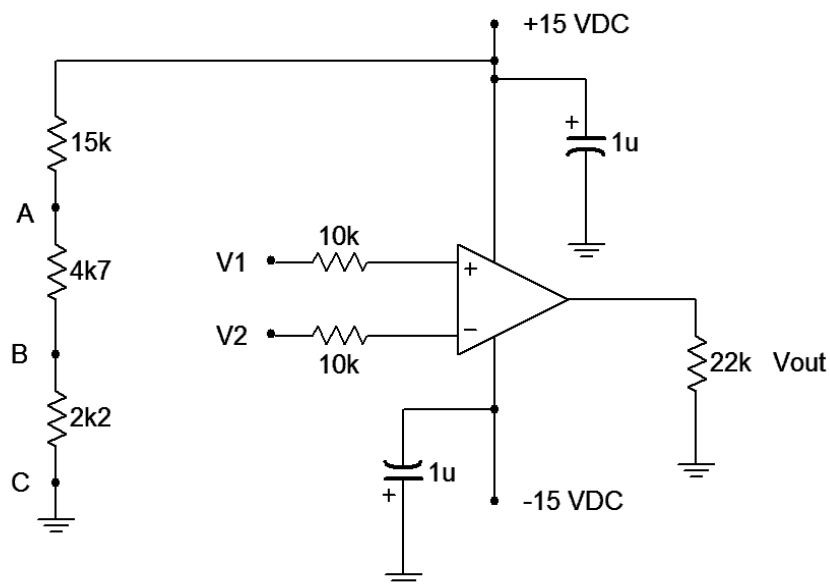

Figure 1
2. Assemble the circuit of Figure 1.
8. Build the circuit of Figure 1 in a simulator and run a Transient Analysis echoing steps 4 through 7. Compare the results to the waveforms generated experimentally.